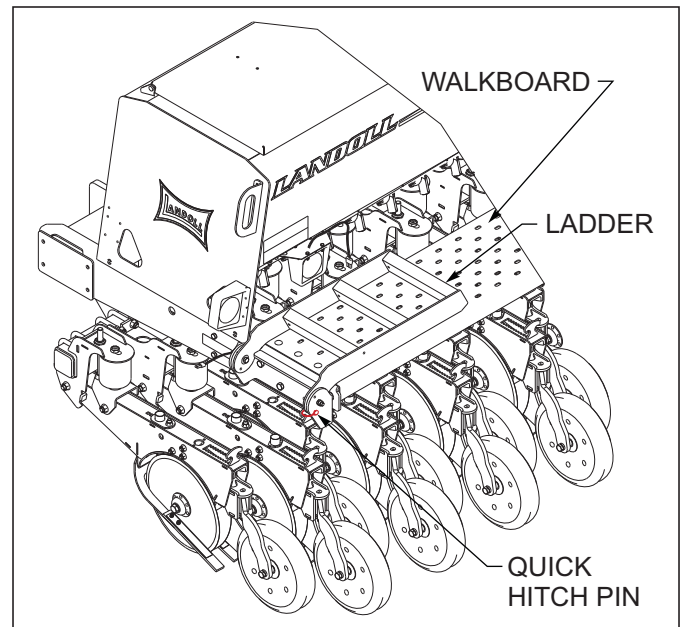

Figure 4-29: Ladder Location During Transport/Planting
- a. The ladder should be in the raised position (laying across the top of the walkboard) and secured with the pin *See Figure 4-29.*